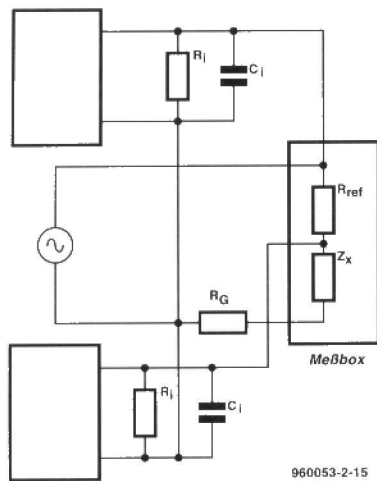

Fig. 5. Circuit of the measurement system with its inherent parasitic (stray) components.
Normally, you will be using inductors in the micro-henry and milli-henry range, and capacitors in the pico-farad and micro-farad range. The value of ex-equipment adjustable capacitors and inductors is rarely printed on the devices. The present AF analyser system allows the values of such (RF) parts to be measured with a fair degree of accuracy, provided you avoid the pitfalls of measurement errors. Figure 5 shows how parasitic components may cause such errors with impedance measurements (for configuration I). The resistance (of up to 0.2 Ω) formed by the generator cable is marked R_G . Effectively, it is connected in series with the measured impedance Z_x . R_G